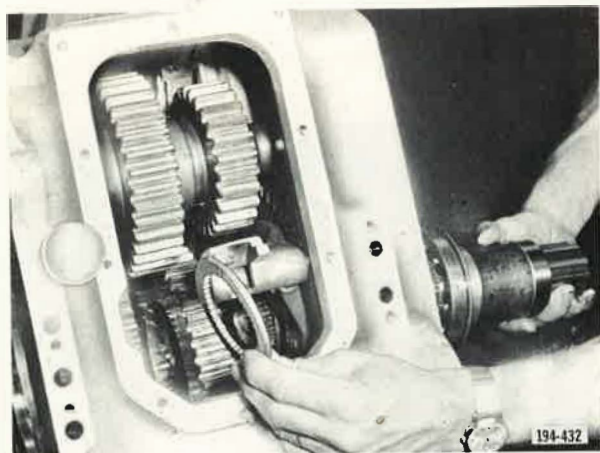

Figure 21. Removing Rear Mainshaft and Lo-Range Gear Rear Thrust Washer
4. Carefully withdraw rear mainshaft from case through rear bearing opening and at the same time slide Lo-range gear rear thrust washer off of mainshaft. See Figure 21.